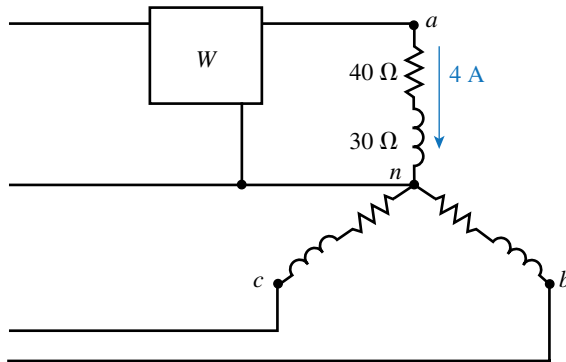

FIGURE 23–53
- 47. For Figure 23–46, the generator phase voltage is 120 volts.